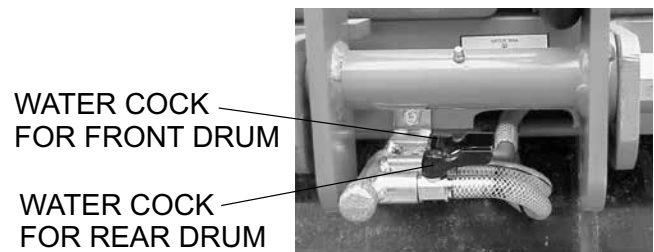

Figure 20. Water Cocks
2. For watering work, turn the water cocks clockwise, at the rear of the machine, to start sprinkling (Figure 20).